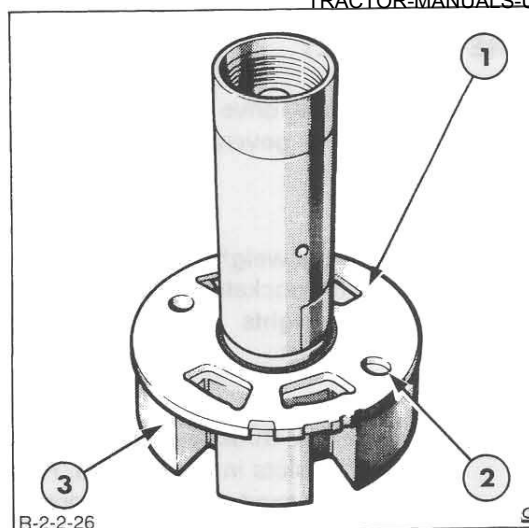

Figure 26
- (i) Install the bottom adjusting plate, which has the two dowel holes, Figure 26, over the shank of the rotor. Ensure that the fuel adjustment slots in the adjusting plate lie within in the cutaway section of the rotor head, Figure 26.